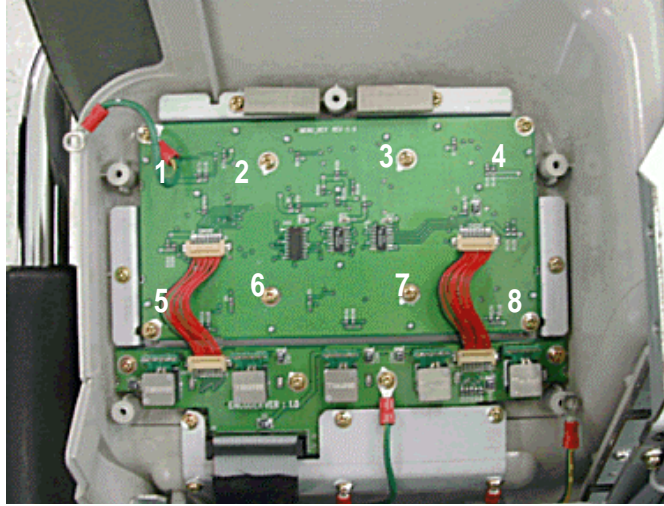

Figure 8-40 Unscrew 8 screws
2.) Disconnect two connectors and unscrew 8 screws. Refer to Figure 8-40.